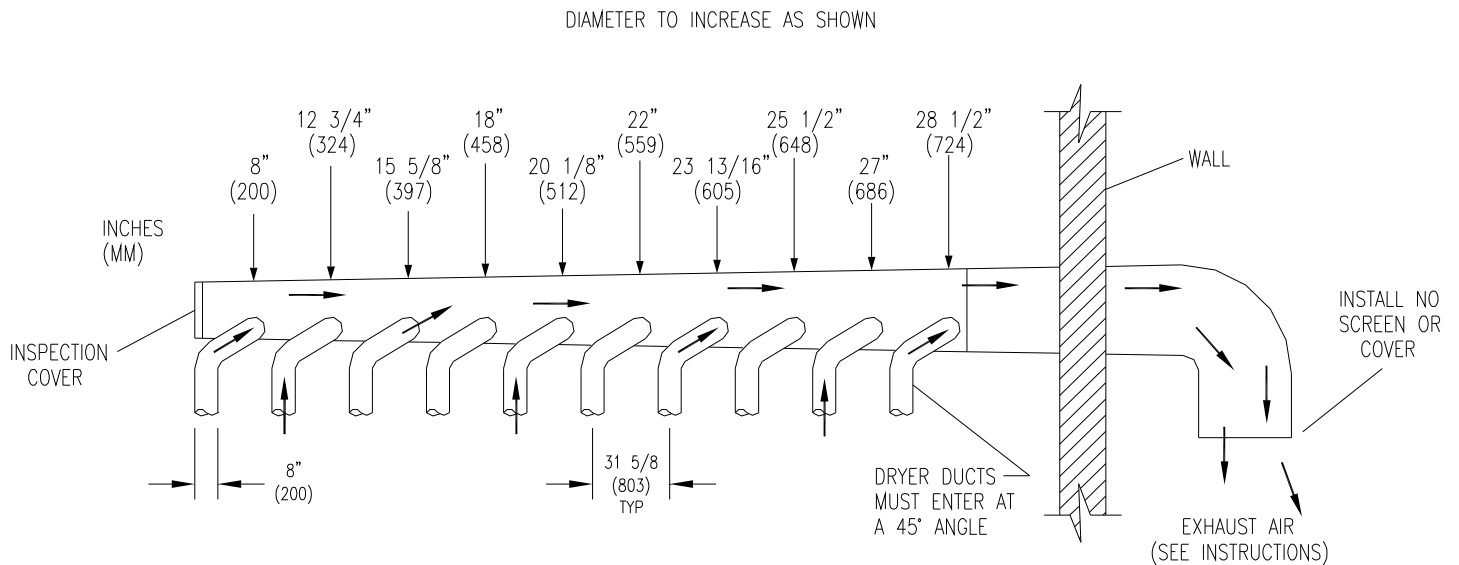

FIGURE 3- Dryer Exhausting Using A Main Discharge Duct.
| Figure 3 - Dryer Exhausting | 7 |
6. **EXHAUST INSTALLATION.** (Refer to Figure 3 at the end of section 6.) Exhausting of the dryer(s) should be planned and constructed so that no air restrictions occur. Any restriction due to pipe size or type of installation can cause slow drying time, excessive heat, and lint in the room.
Installation of several dryers, where a main discharge duct is necessary, will need the following considerations for installation (see Figure 3). Individual 8" (200 mm) exhaust ducts from each dryer should enter main discharge duct at a 45-degree angle in the direction of discharge airflow.
NOTE: Never install the individual ducts at a right angle into the main discharge duct. The individual ducts from the dryers can enter at the sides or bottom of the main discharge duct. Figure 3 indicates the various round main duct diameters to use with the individual dryer ducts. The main duct can be rectangular or round, provided adequate airflow is maintained. The total exhausting (main discharge duct plus duct outlet from the dryer) should not exceed the equivalent of 14 ft. (4.25 m) and two elbows. The diameter of the main discharge duct at the last dryer must be maintained to exhaust end.